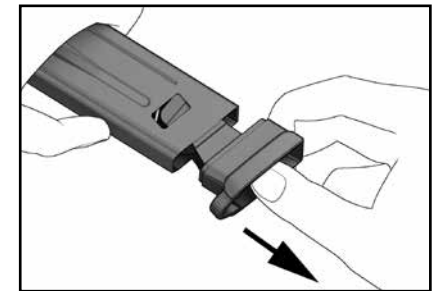

Figure 23
3. With the locking insert detent still depressed, squeeze the floor plate locking tabs located on the right and left sides of the magazine (see Figure 23).